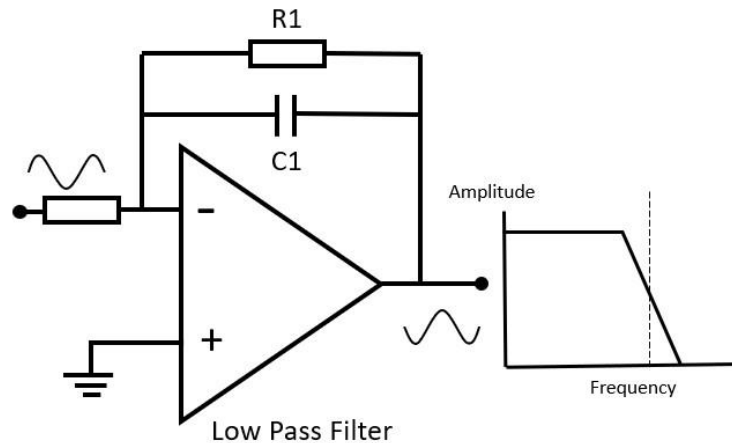

Figure 10: Low Pass Filter.
9. **The Low pass filter** is a unity gain amplifier passing the frequencies lower than that determined by R_1 and C_1 (Figure 10).